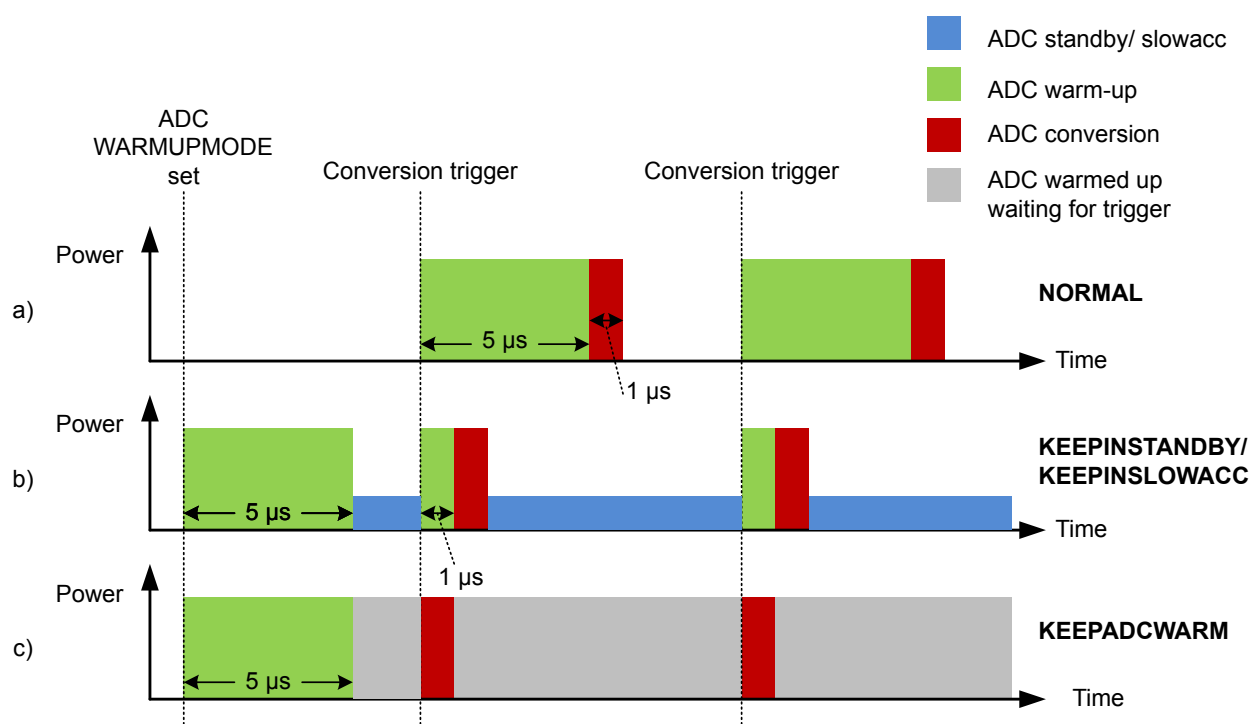

Figure 27.4. ADC Analog Power Consumption With Different WARMUPMODE Settings
Normally, the ADC will be warmed up only when samples are requested and is shut off when there are no more samples waiting. However, if lower latency is needed, configuring the WARMUPMODE field in ADCn_CTRL allows the ADC and/or reference to stay warm between samples, reducing the warm-up time or eliminating it altogether. Figure 27.4 ADC Analog Power Consumption With Different WARMUPMODE Settings on page 889 shows the effects on analog power consumption in scenarios using different WARMUPMODE settings.
- **NORMAL:** This is the lowest power option for general-purpose use and low sampling rates (below 35 ksps). The ADC and references are shut off when there are no samples waiting. The ADC does not consume any power when it is shut down. A 5 μ s warmup time will be initiated prior to every conversion. Figure a in Figure 27.4 ADC Analog Power Consumption With Different WARMUPMODE Settings on page 889 shows this mode.
- **KEEPINSTANDBY:** This mode is suitable for infrequent sampling of lower impedance inputs, and is the lowest power option for sampling rates between about 35 and 125 ksps. It may also be useful for lower sampling rates where latency is important. The reference selected for scan mode is kept warm, but the ADC is powered down. The ADC will initiate a 1 μ s warmup period before a conversion begins. Because the reference is kept warm, the ADC will consume a small amount of standby current when it is not converting. Figure b in Figure 27.4 ADC Analog Power Consumption With Different WARMUPMODE Settings on page 889 shows this mode.
- **KEEPADCWARM:** This mode provides the lowest latency and allows for maximum sampling rates. The ADC and reference circuitry remain powered on even when conversions are not in progress. Figure c in Figure 27.4 ADC Analog Power Consumption With Different WARMUPMODE Settings on page 889 shows this mode. This mode consumes the most power, but as soon as a trigger event occurs, the acquisition and conversion begin with no warm-up time. Note that if KEEPADCWARM mode is set and HFXO is selected as the ADC clock source, the HFXO will remain on in EM2.